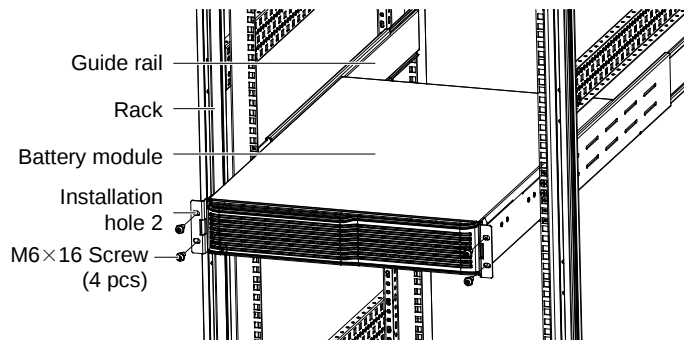

Figure 2-5 Installing battery module
2. Place the battery module onto guide rail in the rack, and push it completely into the rack along the guide rail (it is prohibited to move the battery module through the brackets). Take out four M6 × 16 screws from accessories, and fix the battery module onto the rack using the screws through installation hole2 on the bracket, as shown in Figure 2-5.